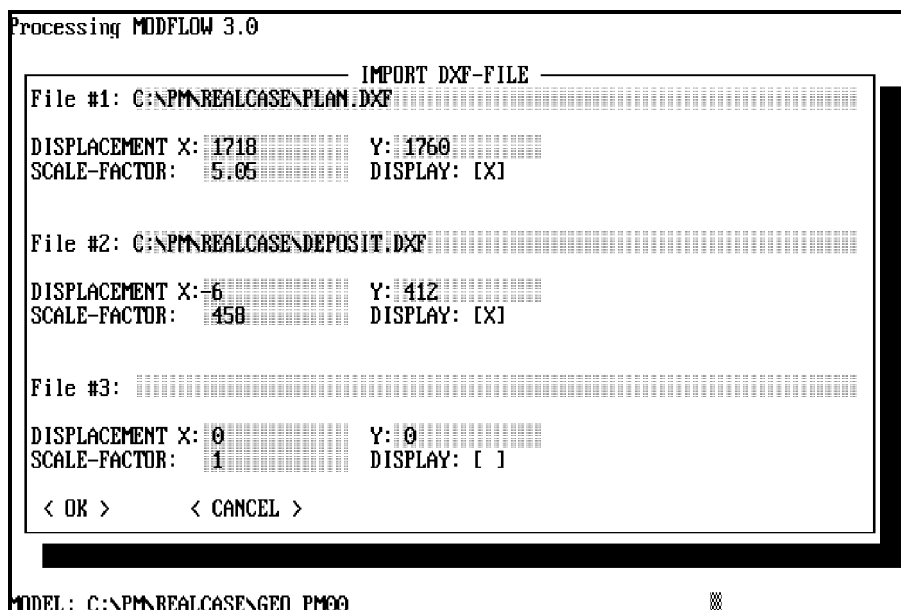

Fig. 4.2: Import DXF-file
- **Import DXF-file.** Up to three DXF-maps can be displayed simultaneously, but they cannot be modified in PMCAD. The DXF graphics entities LINE, POLYLINE, POINT, CIRCLE, ARC, and TEXT can be accepted. There is no size limit to the number of these graphics entities. The scale factor of a DXF-map and the displacement of a **scaled** DXF-map must be carefully specified in the "IMPORT DXF-FILE" dialog box (Fig. 4.2). A DXF-map will be displayed only if the option "DISPLAY" is chosen, i.e. an "X" in the square brackets. You can use this option to turn off the display of a DXF-map, without having to erase the filename given in the dialog box.